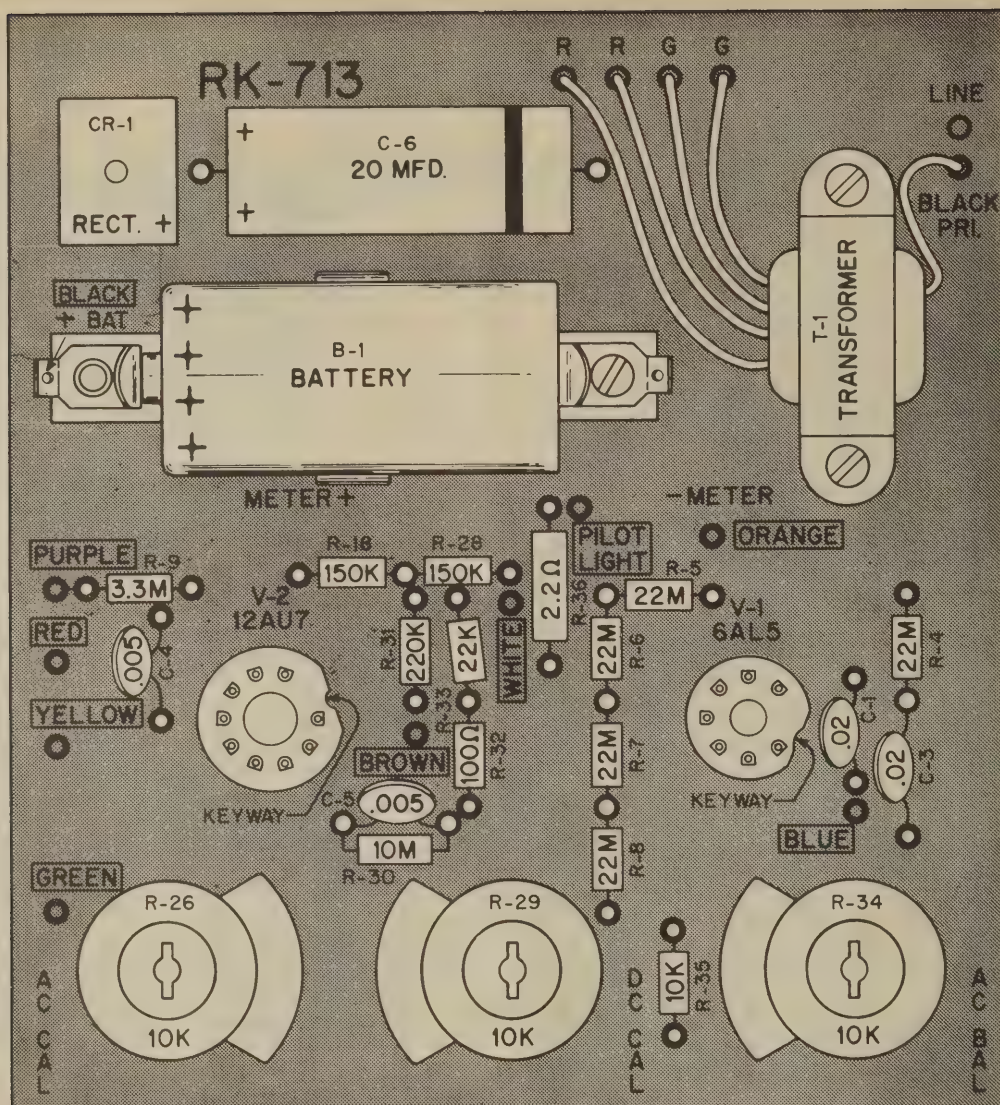

FIGURE 11. MOUNTING THE PARTS ON THE PRINTED CIRCUIT BOARD
1. INSERT the wire leads of the parts through the holes as shown in Figure 11.
### SEE FIGURE 11.
#### SEE FIGURES 11 AND 12.
- (✓) Mount R-9, 3.3 Megohm resistor (orange, orange, green) as shown in Figure 11.